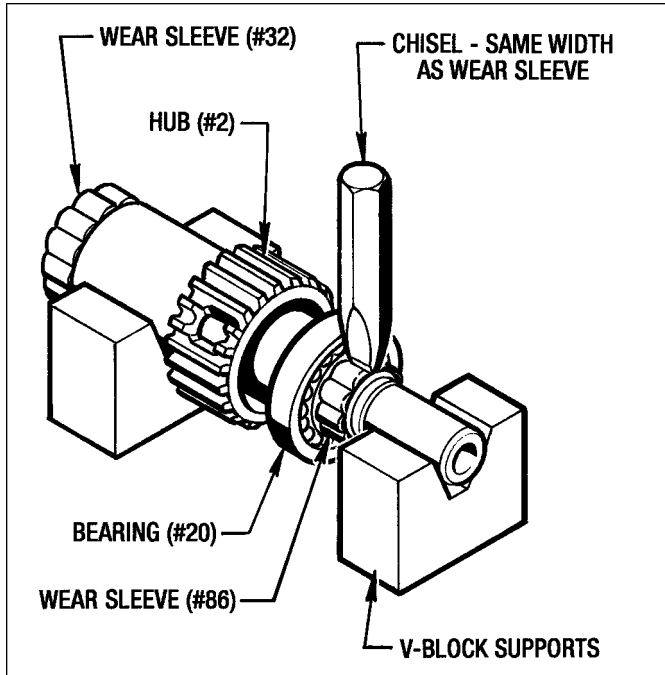

Figure 7.4 - Removing Wear Sleeves
- Set the Hub into an appropriate V-Block Support as shown in *Figure 7.4*. Using a mallet and chisel the same width as the Wear Sleeve, make 6 to 8 notches in the Wear Sleeve. The Wear Sleeves (#32) and (#86) can be removed from the Hub (#2) by hand.